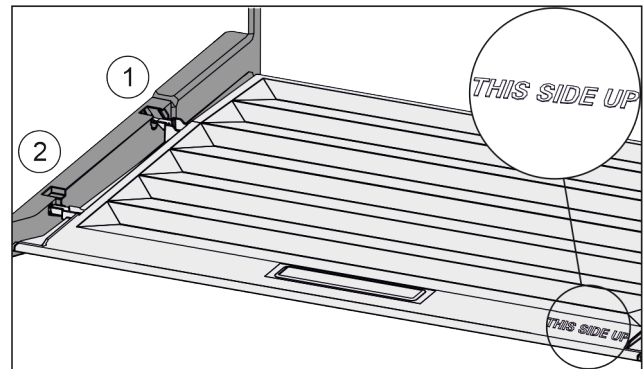

Fig. 118
- ▶ Insert the lip of the cover over the opening of the rear bracket *Fig. 118 (1)* and click into place *Fig. 118 (2)*.